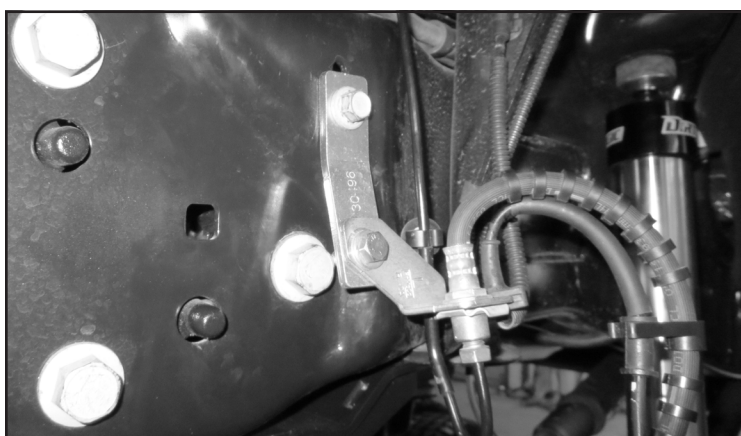

FIGURE 9 - STEP 13
13. Install FT30496 (Brake line bracket) to the factory brake line bracket using the supplied 5/16" hardware. Then, install the new bracket to the original mounting hole using the factory bolt. Torque to 25 ft-lbs. **SEE FIGURE 9**